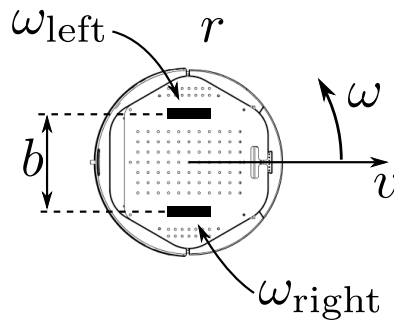

Figure 3: Differential drive model
- Q3** In practice it is often impossible to control a ground robot by sending  $(x, y, \theta)$  velocities. A classical way to control such a robot is to send a setpoint with a linear velocity  $v$  and an angular velocity  $\omega$ , expressed in the robot frame as shown in Fig. 3.
**Q5** When a robot is equipped with two actuated wheels, a simple model is the differential drive model, as shown in Fig. 3. Assuming the two wheels have a radius  $r$  and are separated with a distance  $b$ , then the kinematic model yields: